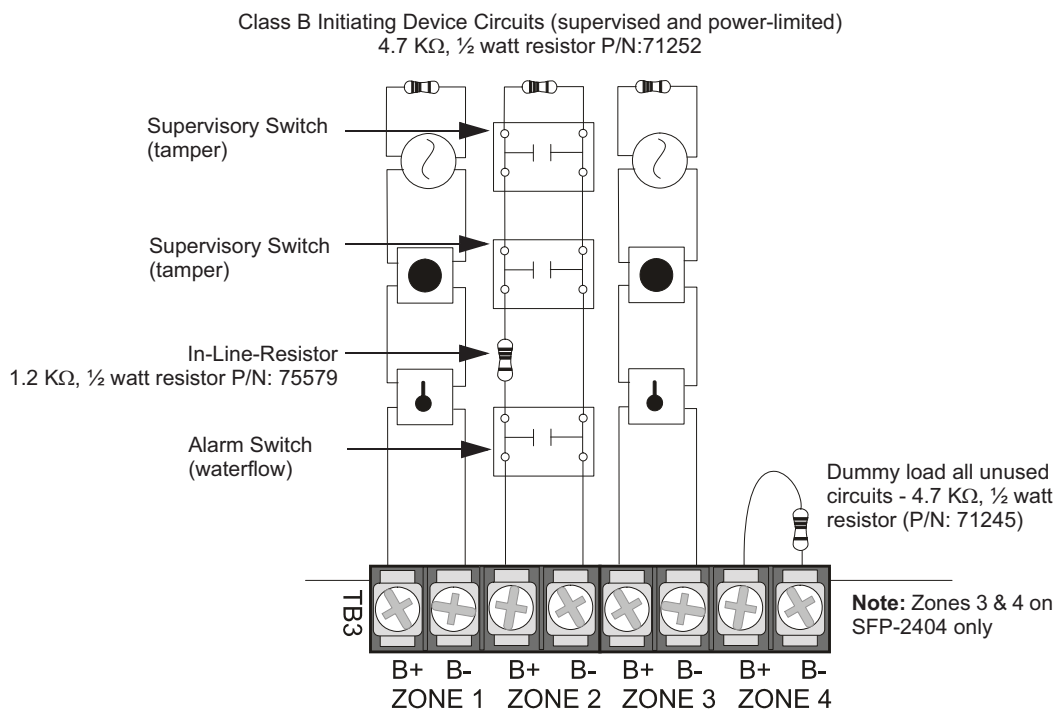

Figure 2.5 Style B Combination Circuit on Zone 2 of the SFP-2404
- ✓ The Waterflow Alarm Switch(es) must connect to the FACP Initiating Device Circuit before the In-Line Resistor as shown in Figure 2.5
- ✓ The Waterflow Supervisory Switch(es) must connect to the FACP Initiating Device Circuit after the In-Line Resistor as shown in Figure 2.5